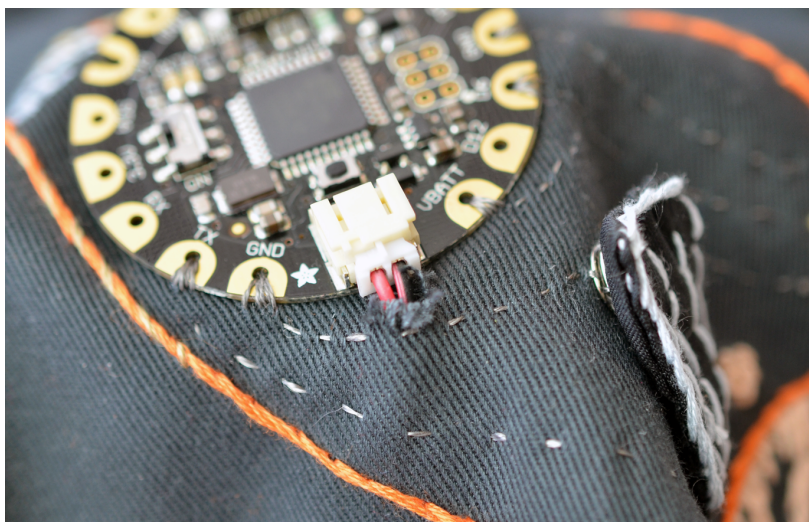

Figure 5-7. *Install the battery*
2. Bring the male end of the JST extension cable through the hole from the back of the fabric to the front, then plug it into your FLORA (see Figure 5-7).